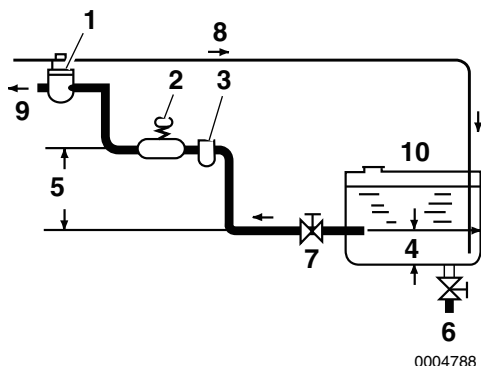

Figure 3
Install the fuel line from the fuel tank to the fuel injection pump as shown in **Figure 3**. The recommended fuel / water separator (**Figure 3, (3)**) (optional) is installed at the center section of that line.